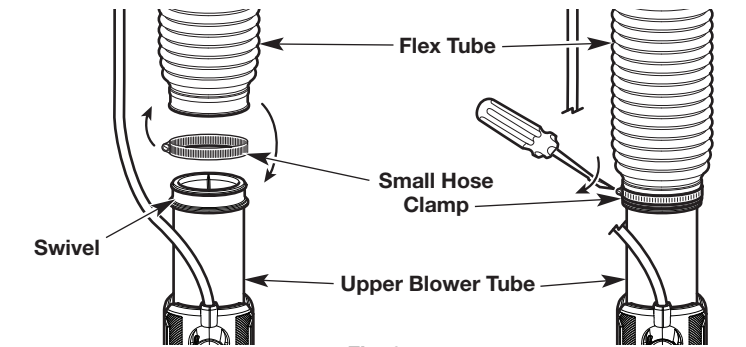

Fig. 2
2. Place the small hose clamp around the small end of the flex tube (Fig. 2).
3. Slide the flex tube and hose clamp onto the upper end of the upper blower tube (Fig. 2).
4. Tighten the screw on the hose clamp with a flat-head screwdriver (Fig. 2).
NOTE: A swivel comes pre-installed on the upper blower tube. Do not remove the swivel (Fig. 2).